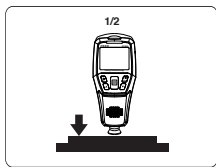

Figure 3
1. When Figure 3 appears on the screen, place a standard coating thickness film with known thickness (e.g.: 500 μ m) on top of an uncoated substrate.